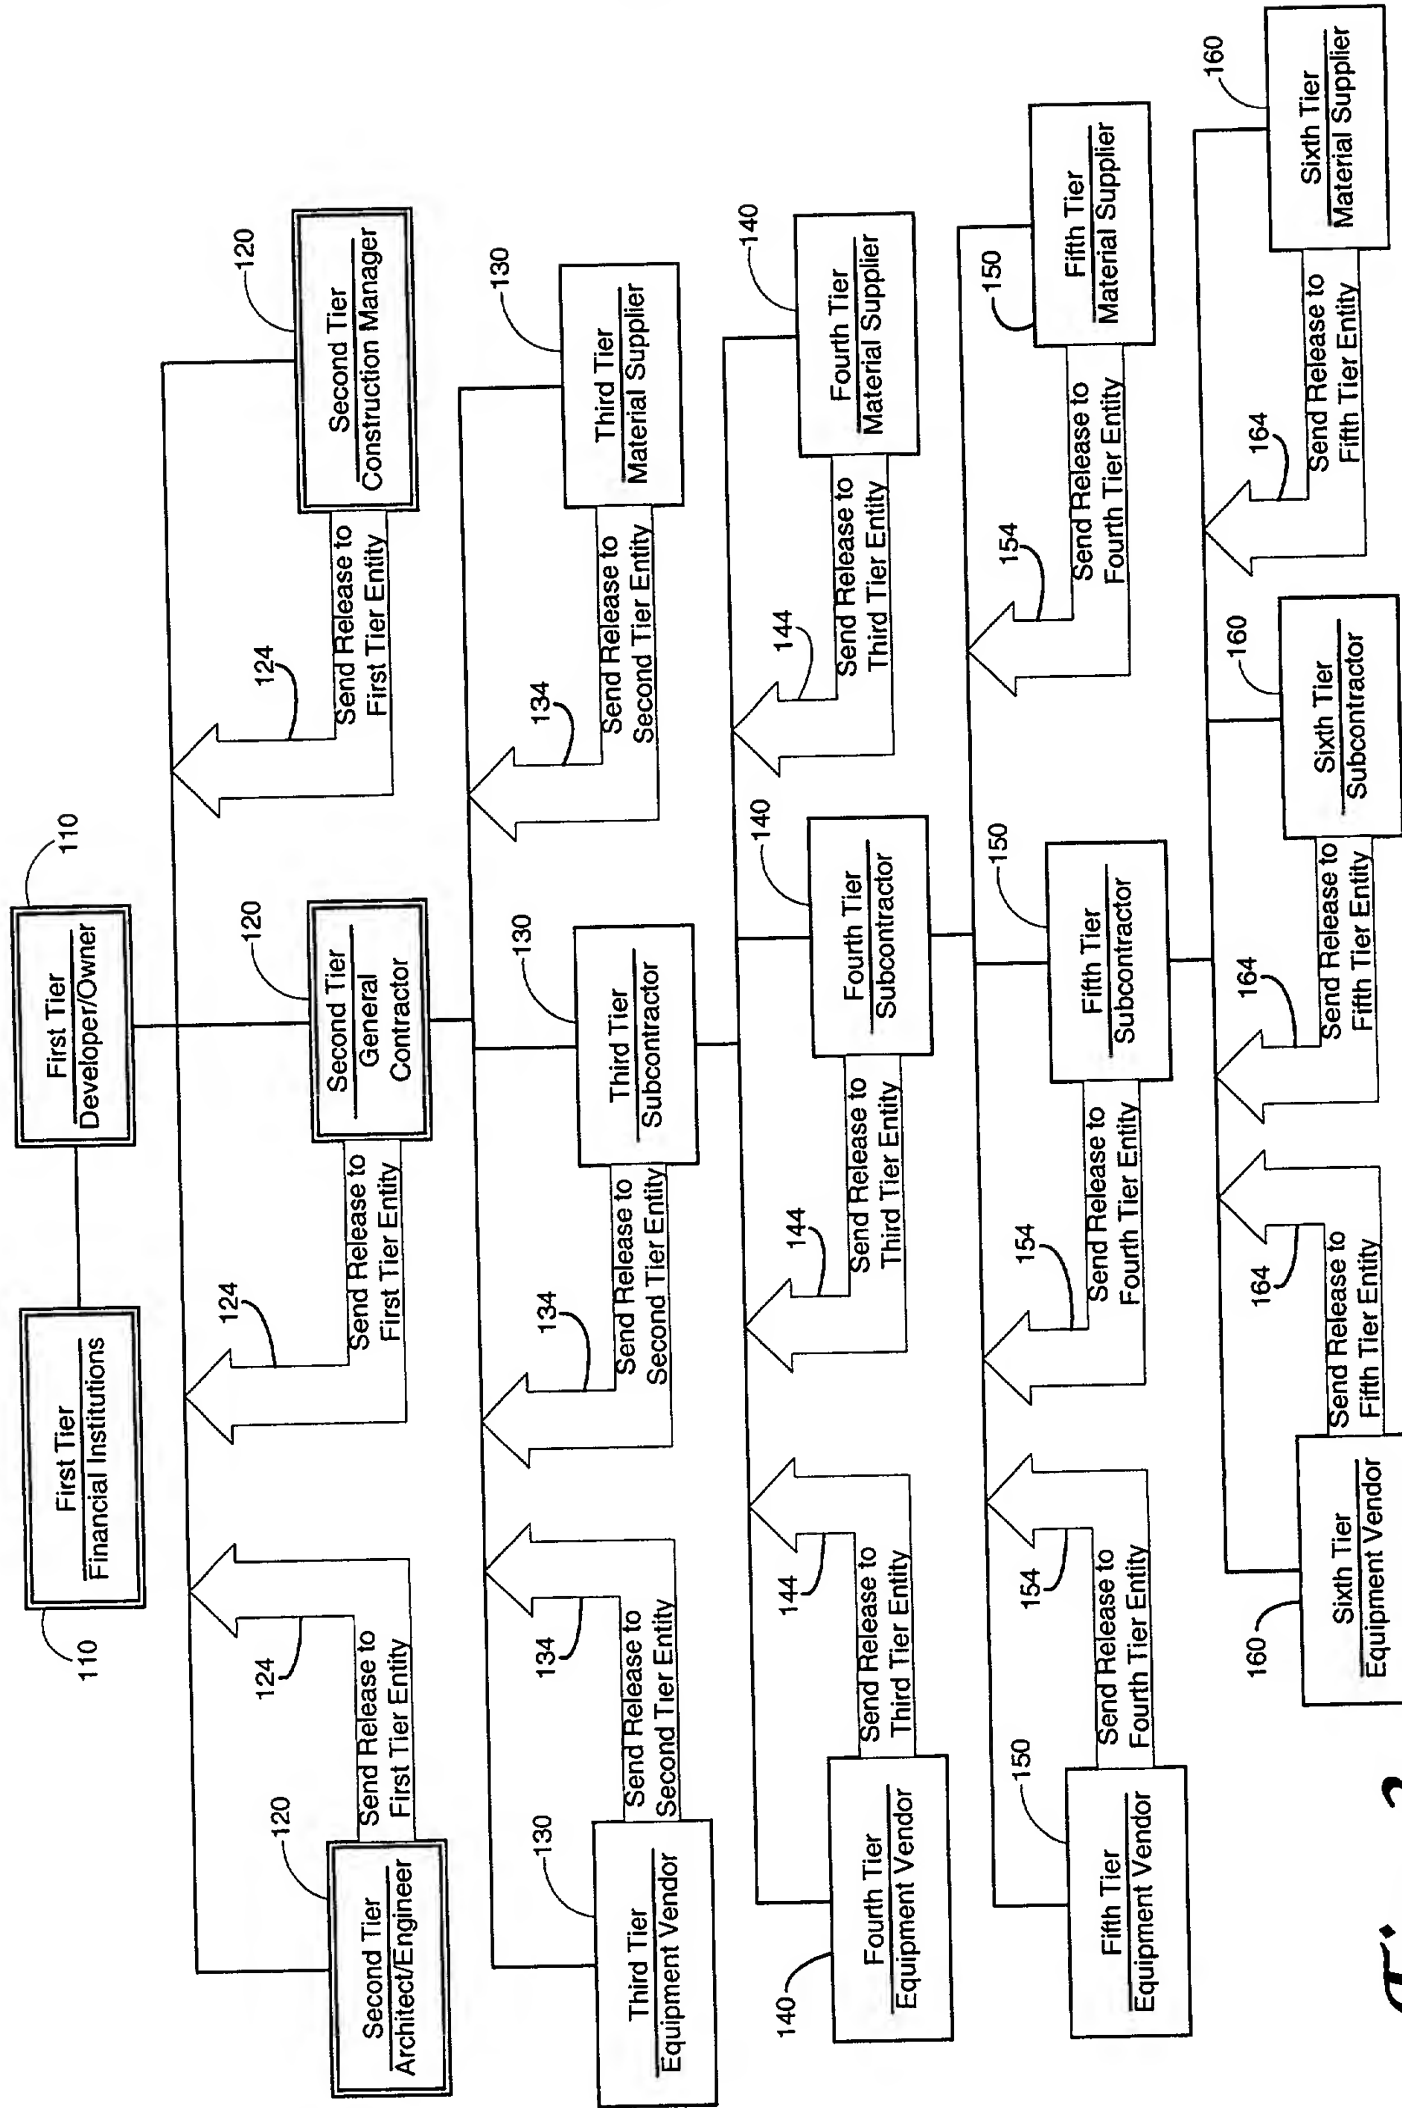

Fig. 3
FIG. 3 is a block diagram of a system for providing a release of information to a third party. The system includes a first tier developer/owner (110) and a first tier financial institutions (110). The first tier developer/owner (110) is connected to a second tier architect/engineer (120) and a second tier general contractor (120). The first tier financial institutions (110) is connected to a second tier construction manager (120). The second tier architect/engineer (120) is connected to a third tier equipment vendor (130). The second tier general contractor (120) is connected to a third tier subcontractor (130). The second tier construction manager (120) is connected to a third tier material supplier (130). The third tier equipment vendor (130) is connected to a fourth tier equipment vendor (140). The third tier subcontractor (130) is connected to a fourth tier subcontractor (140). The third tier material supplier (130) is connected to a fourth tier material supplier (140). The fourth tier equipment vendor (140) is connected to a fifth tier equipment vendor (150). The fourth tier subcontractor (140) is connected to a fifth tier subcontractor (150). The fourth tier material supplier (140) is connected to a fifth tier material supplier (150). The fifth tier equipment vendor (150) is connected to a sixth tier equipment vendor (160). The fifth tier subcontractor (150) is connected to a sixth tier subcontractor (160). The fifth tier material supplier (150) is connected to a sixth tier material supplier (160). The sixth tier equipment vendor (160) is connected to a seventh tier equipment vendor (170). The sixth tier subcontractor (160) is connected to a seventh tier subcontractor (170). The sixth tier material supplier (160) is connected to a seventh tier material supplier (170).